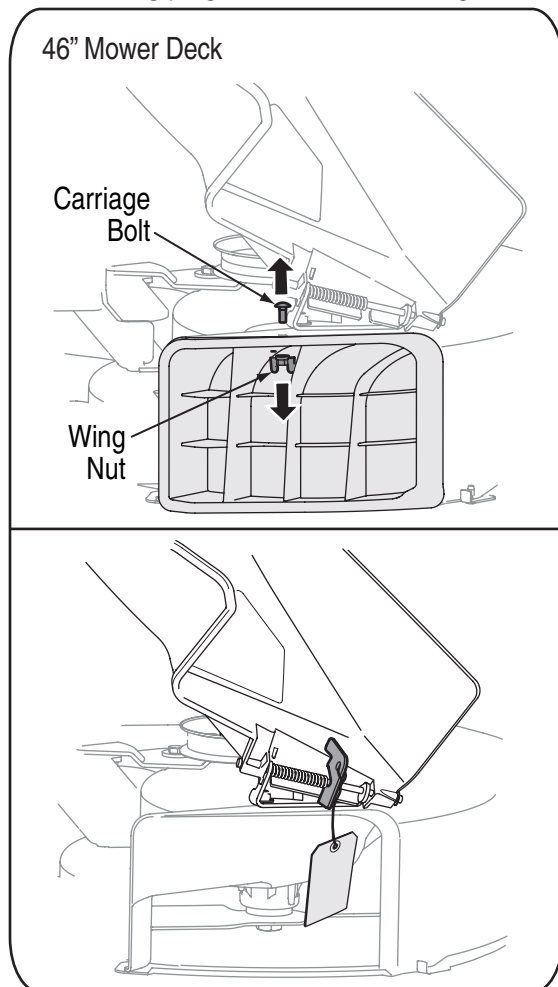

Figure 3-2
- Remove the wing nut and carriage bolt securing the mulching plug in the deck discharge opening, and pull the mulching plug from the deck. See Figure 3-2.